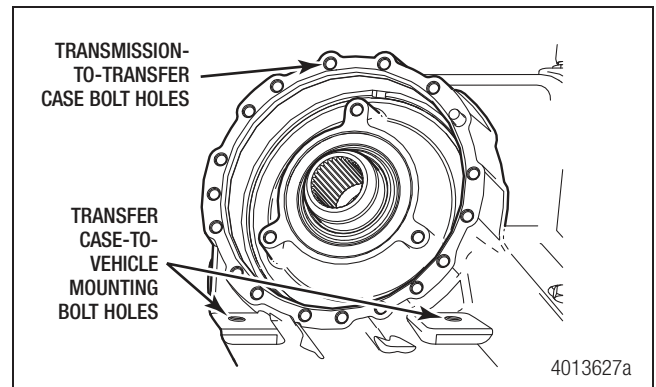

Figure 3.2
11. Remove the bolts securing the transfer case to the transmission. If equipped, remove the mounting bolts that hold the transfer case to the vehicle. Figure 3.2.